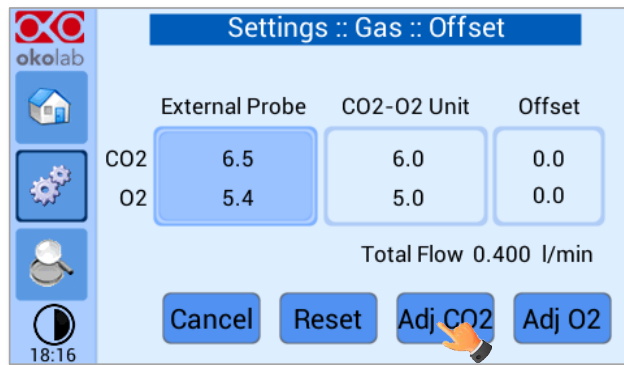

Figure 34. Manual Calibration Correction.
Note ► The Touch Screen will go back to the previous screen. It will display on the left (*External Probe* tab) the CO₂ and O₂ levels read by the external Gas meter, as just input. The value in CO₂-O₂ Unit tab is the value read by CO₂-O₂-UNITL-BL [0-10; 1-18] (see Figure 34).
8. Press *Adj CO2* (see Figure 34) and/or *Adj O2* to make a calibration using the input value from LEO as a reference.